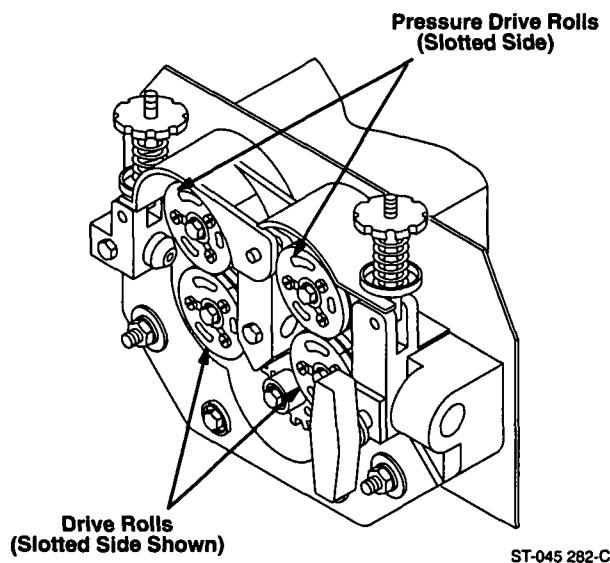

Figure 4-3. U-Cog Drive Roll Installation
**IMPORTANT:** To ensure proper gripping action of U-Cog drive rolls, both rolls should be installed showing slots on the side or both should show the side without slots. Also, it is necessary to line up the blunted teeth on the pressure gear roll directly over the spaces between the teeth on the drive roll (see Figure 4-3).